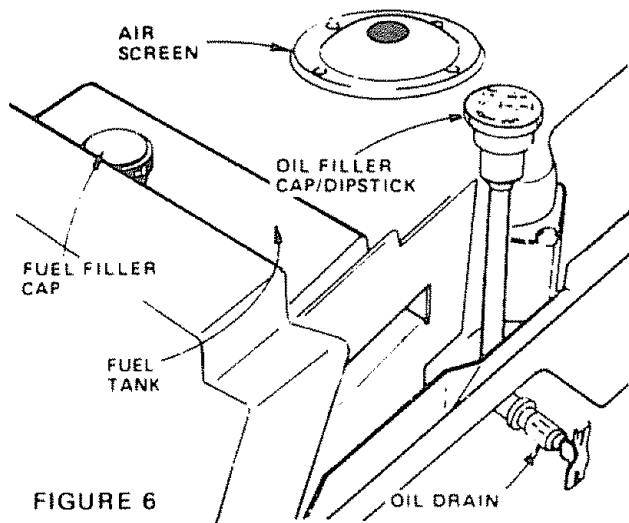

FIGURE 6
- Fill fuel tank (Fig. 6). Use fresh, clean, regular unleaded gasoline. Capacity is 5 quarts